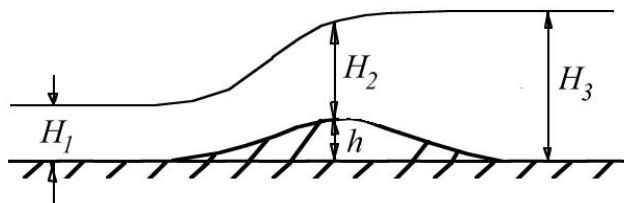

Figure P10.24
10.24 A river of width w flows over a large rock of height h , as shown in Figure P10.24.